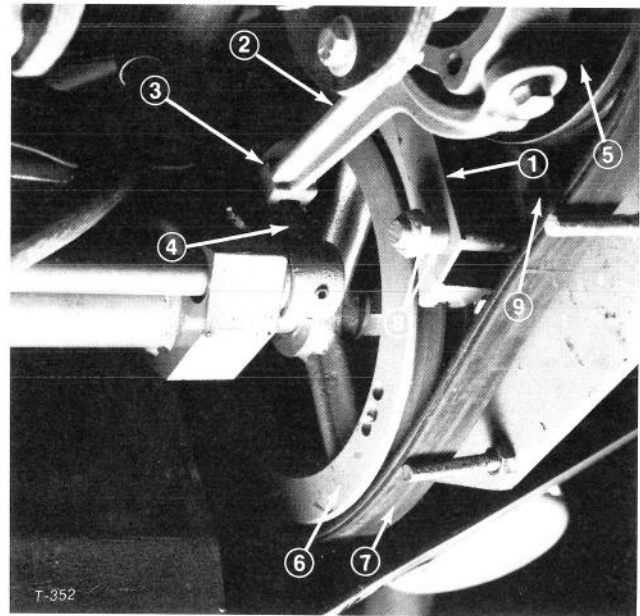

Figure 61
3. Move PTO lever to the ON position and remove PTO brake (Fig. 61).
4. Move PTO lever to the OFF position to release tension on the belt. Remove cotter pin and clevis pin from PTO fork and remove fork from PTO arm (Fig. 61). Roll old belt off engine pulley and PTO pulley (Fig. 61).
and engine pulley, making sure belt is to the inside of the three belt guides. Install PTO fork onto PTO and secure with clevis pin and cotter pin (Fig. 61).
2. Move PTO lever to ON position. Loosen adjusting locknut (Fig. 61) so brake is free to move. Move PTO lever to OFF and position the brake in grooves of pulley.
3. Tighten locknut to hold brake in position (Fig. 61).
pin, and slide spacer, brake and spring off the pins (Fig. 61).
2. Move PTO lever to the ON position to move pulley away from brake. Remove locknut holding brake on mounting pin, and slide spacer, brake and spring off the pins (Fig. 61).